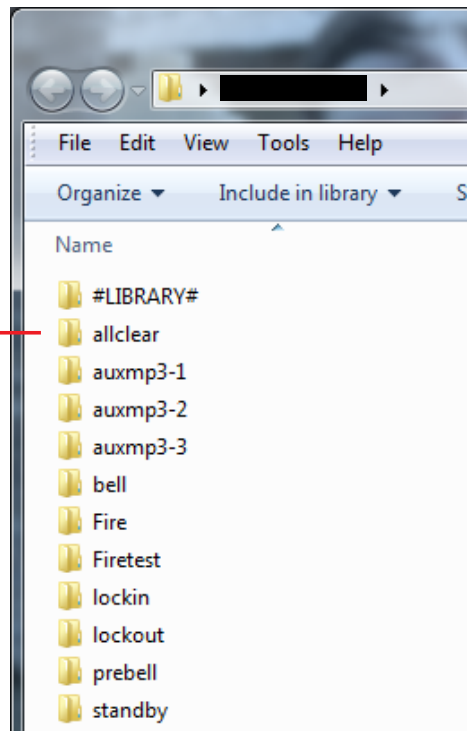

Fig 3.4b
- Once the Micro SD card has been opened you should see a series of folders as shown in Fig 3.4b. These folders relate to the triggers and modes of the A 4595A. E.g the "All Clear" folder contains the MP3 which is played when the "All Clear" mode is activated.